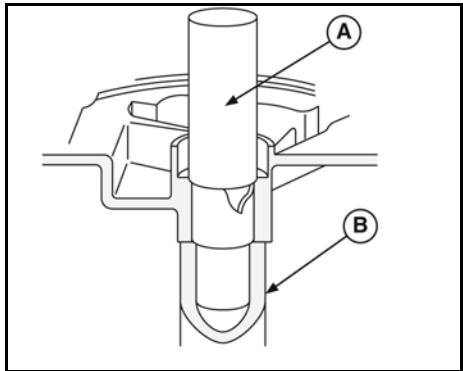

Figure 11
5. Place cylinder or cover/sump on cylinder support (B, Figure 11) with large opening facing bearing.
6. Align oil holes in bearing with oil holes in cylinder or cover/sump, then press in new bearing to correct depth with bushing driver (A).